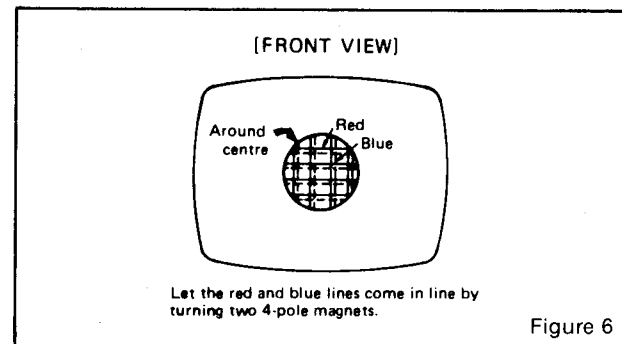

Figure 6
- 2.5 Rotate and spread tabs of the 4-pole (middle) pair of magnets to minimize separation of the red and blue crosshatch lines around the center of the screen (Figure 6). Variation of the angle between the tabs adjusts convergence of red and blue. (Tilt yoke as required to converge red and blue at the edges as in 2.3 above.)